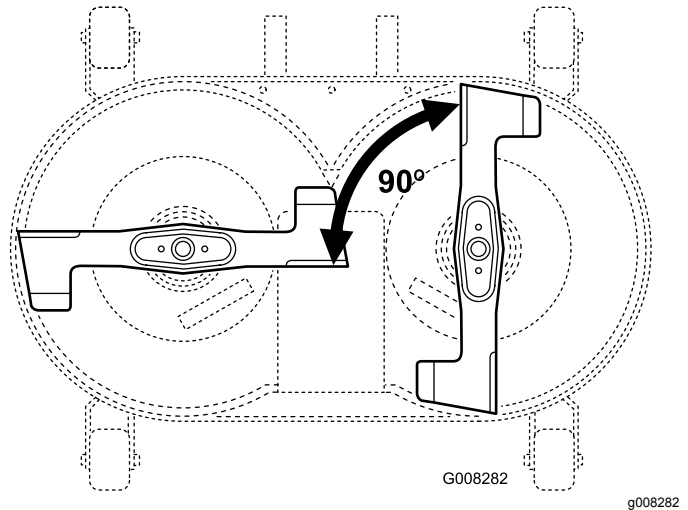

Figure 43
2. Position the blades 90 degrees to each other (Figure 43).